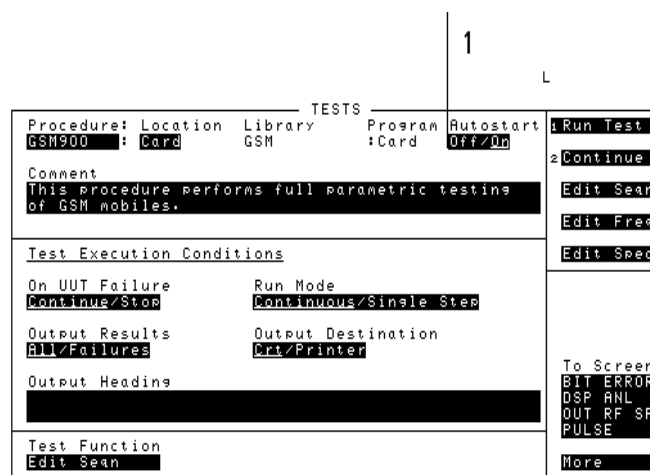

Figure 8-13
Ensure the **Autostart** field toggle is set to **On** (see Figure 8-13 on page 8-32 (1)); this allows the Agilent 8922M/S to go straight to the Procedure Menu each time the Agilent 8922M/S is switched on, providing a Memory Card is inserted in the front panel of the Agilent 8922M/S.